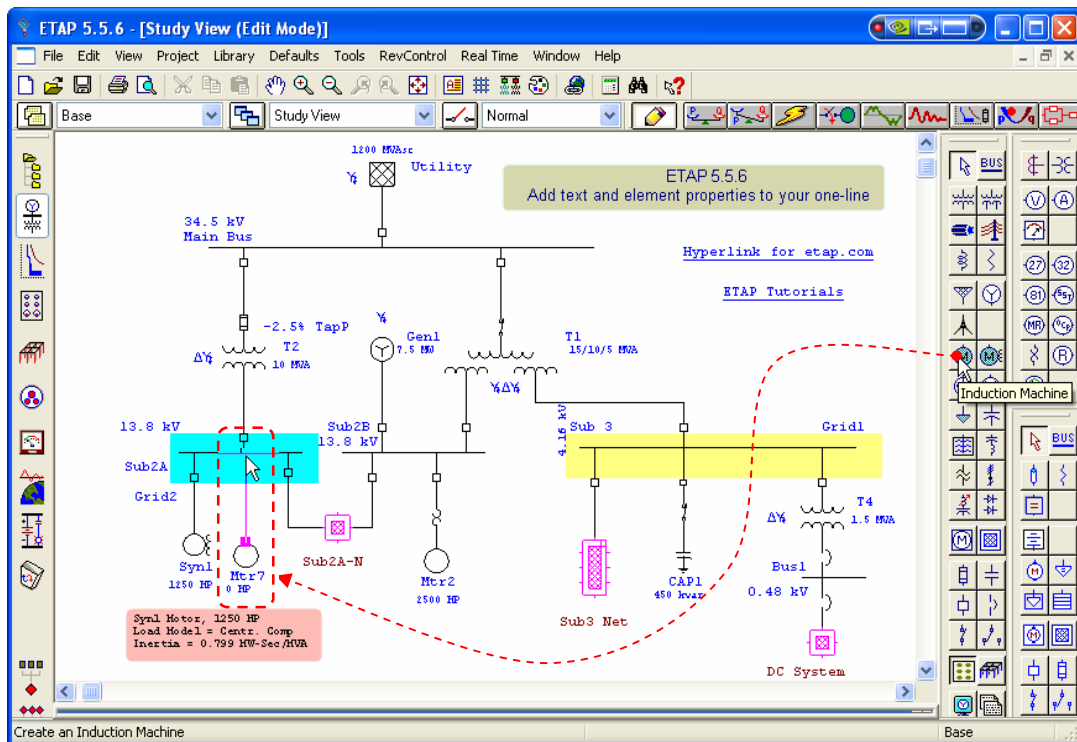

Fig. 1
3. Add and connect new induction motor to the “Sub2A” bus. See Fig. 1